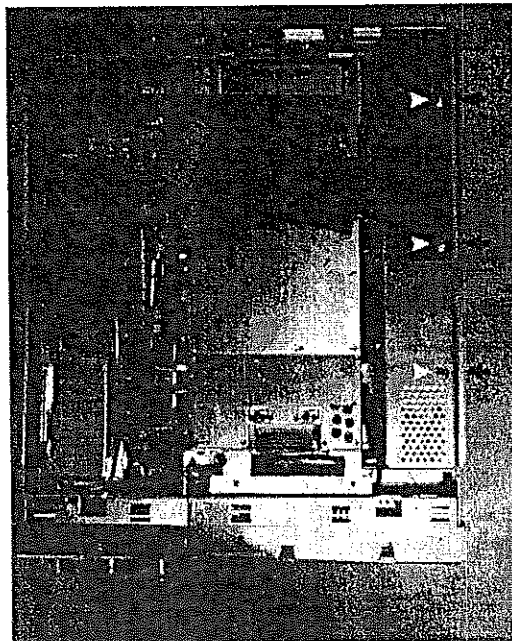

Figure 5-13 Location of Screws
3. Remove 6pcs screws on the top and bottom sides, referring Figure 5-13.